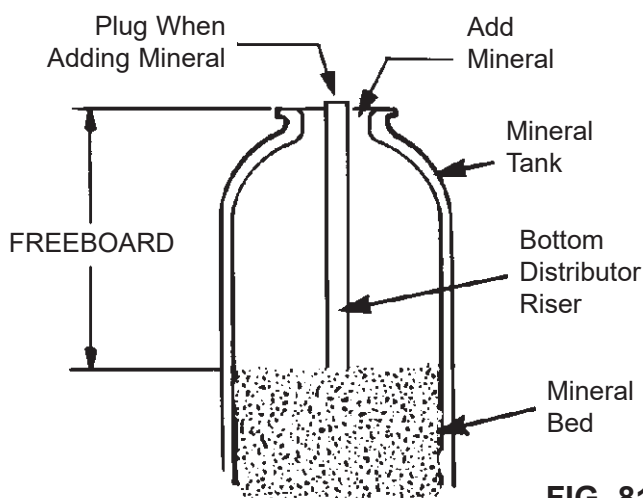

FIG. 81
8. Use a yard stick or steel tape measure to find the distance down to the top of the mineral bed (See Figure 81). If it is lower than the suggested freeboard, shown in the table below, add more neutralite material.